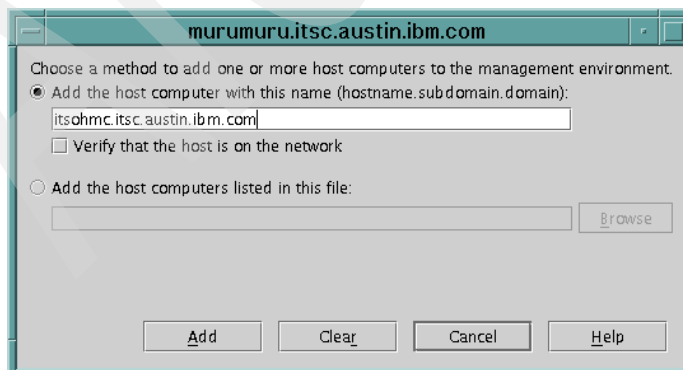

Figure 7-27 Add a host dialog box
2. Select **Console** → **Add** → **Hosts...** from the menu bar to open the dialog box shown in Figure 7-27.